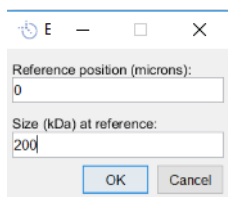

Figure 6-8: Setting a molecular weight reference.
3. Create a peak in the center of the well (0 microns) and enter 200 kDa as the molecular weight (Figure 6-8). Click **OK**. Refresh the peak table(s). This will remove any migration drift for your target(s) of interest when plotting the migration distance in the peak table.